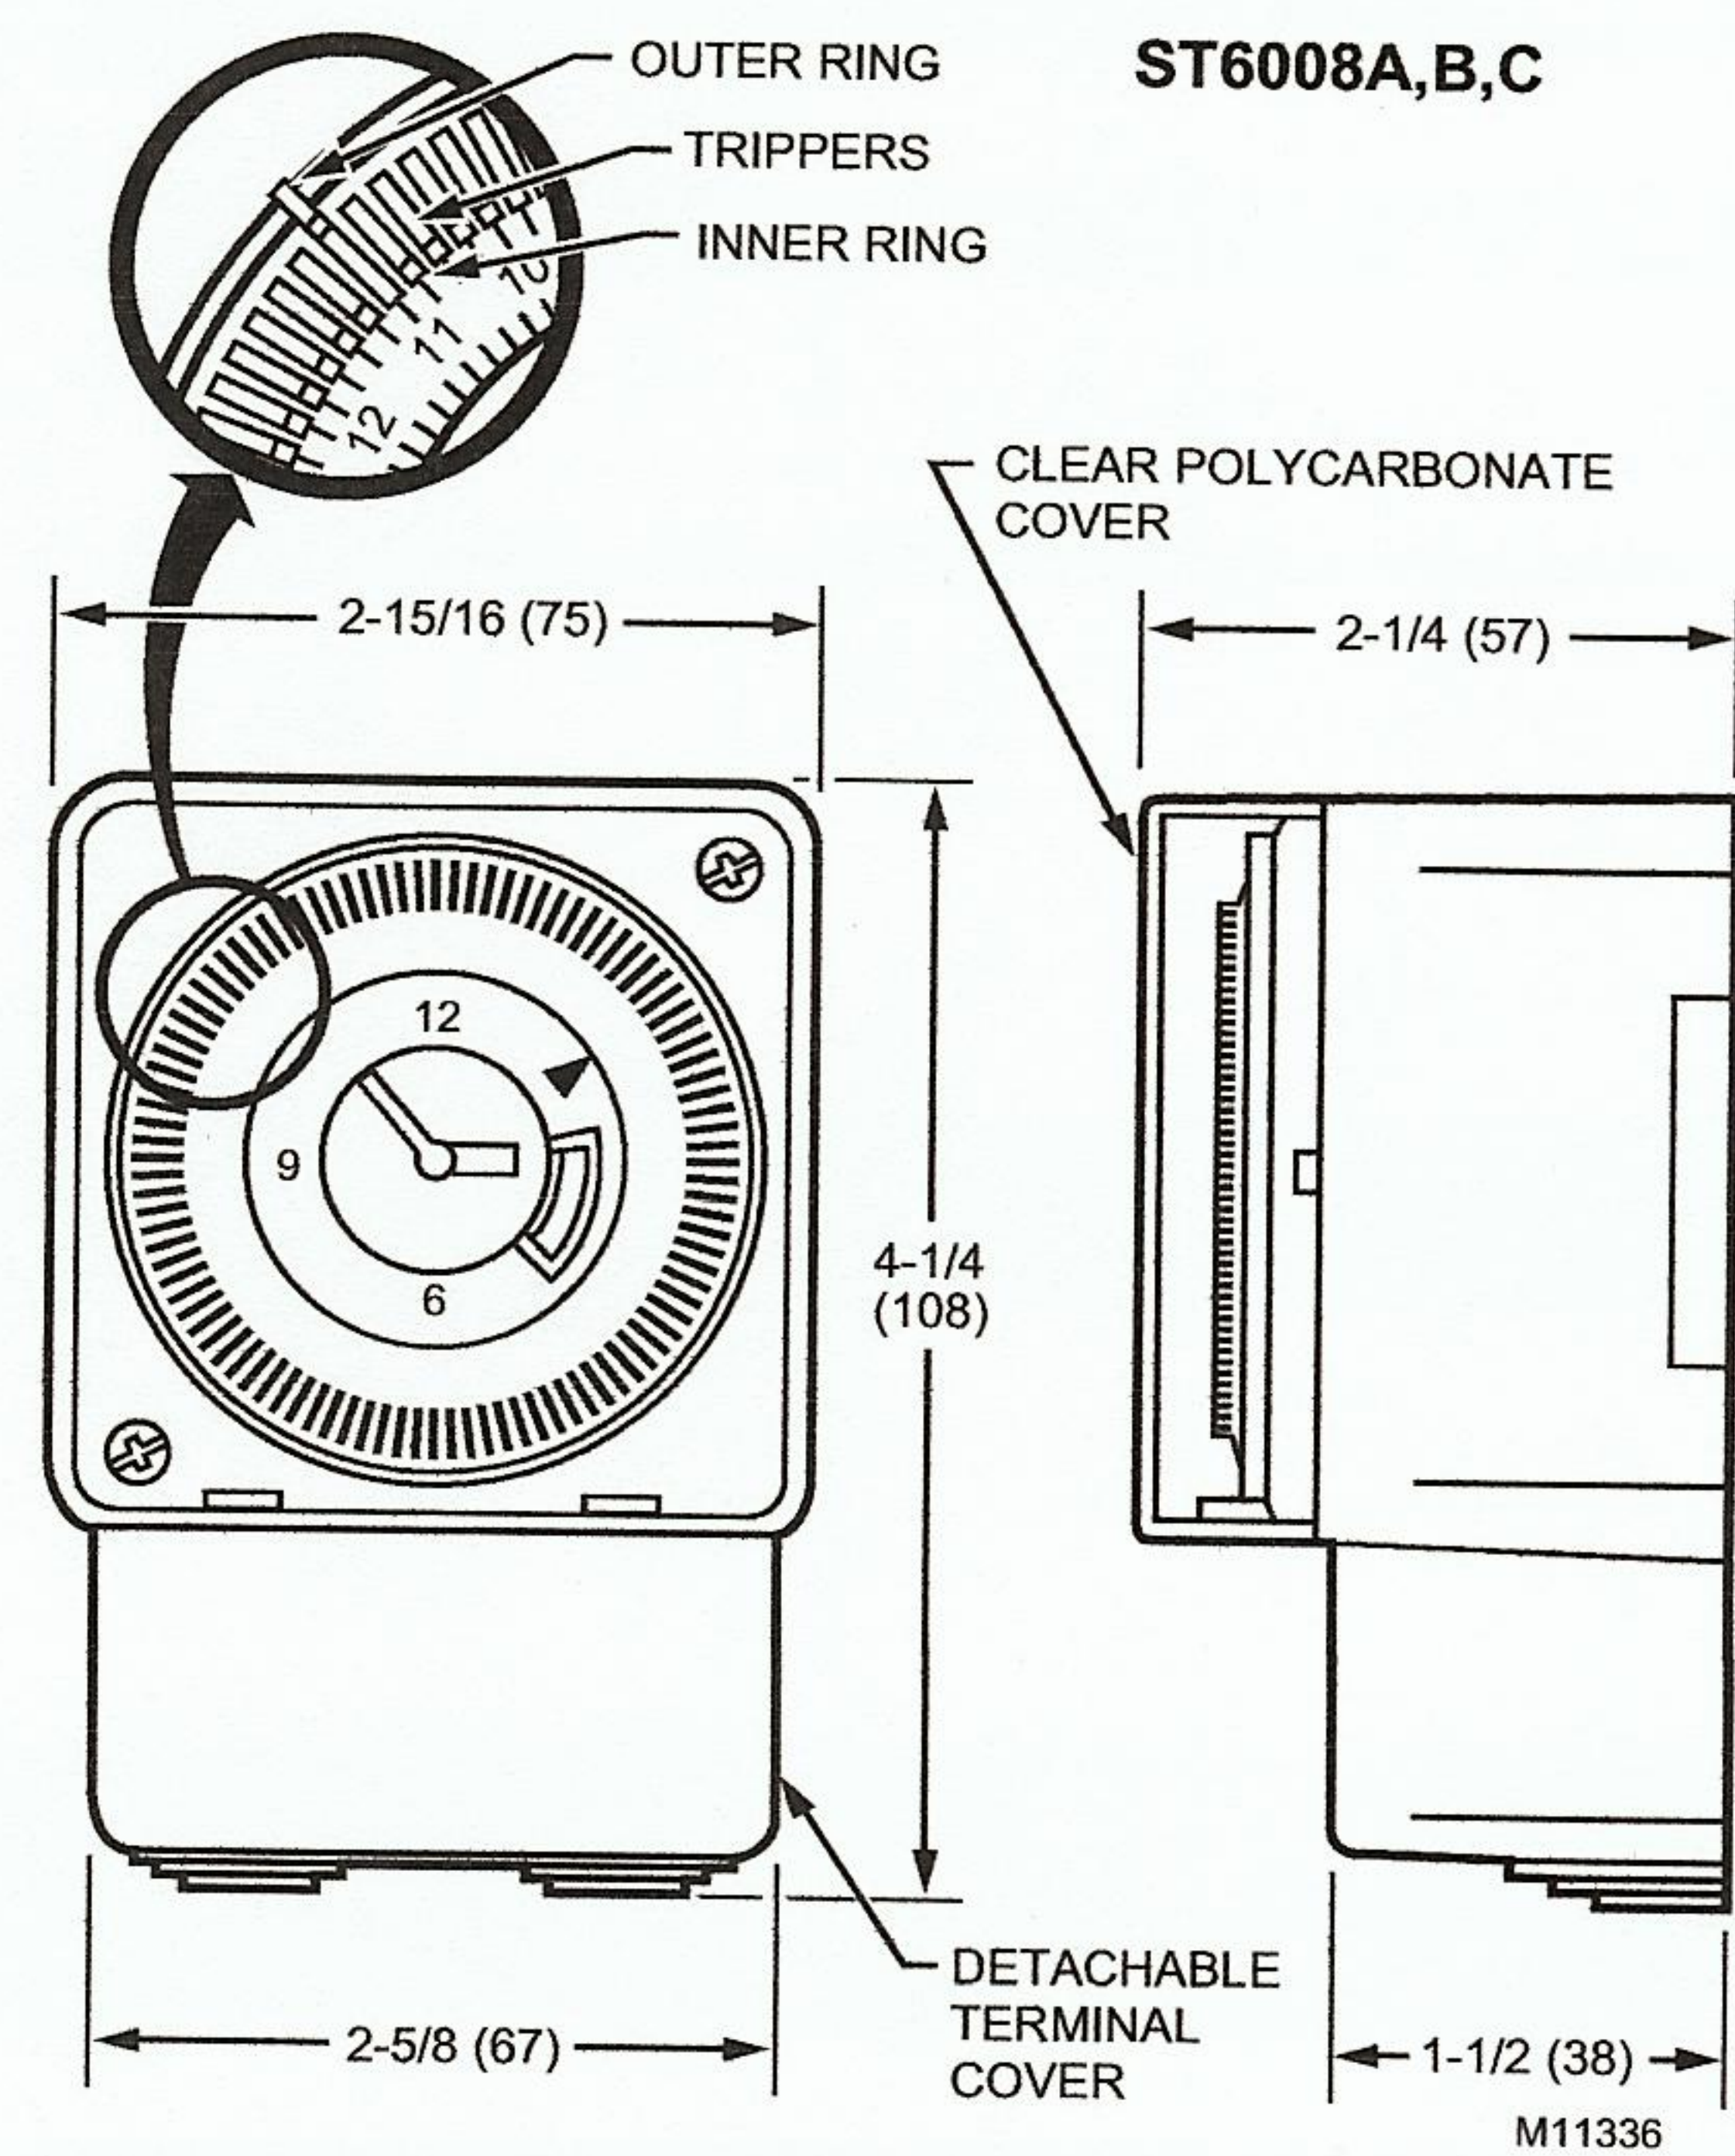

Fig. 1. ST6008A,B,C dimensions in in. (mm).
See Fig. 1.
- ① Push the desired number of trippers to the outer ring position for the entire period the load is on. This places the switch in the on position.
- ② Push the desired number of trippers to the inner ring position to turn off the load. This places the switch in the off position. See Fig. 1.